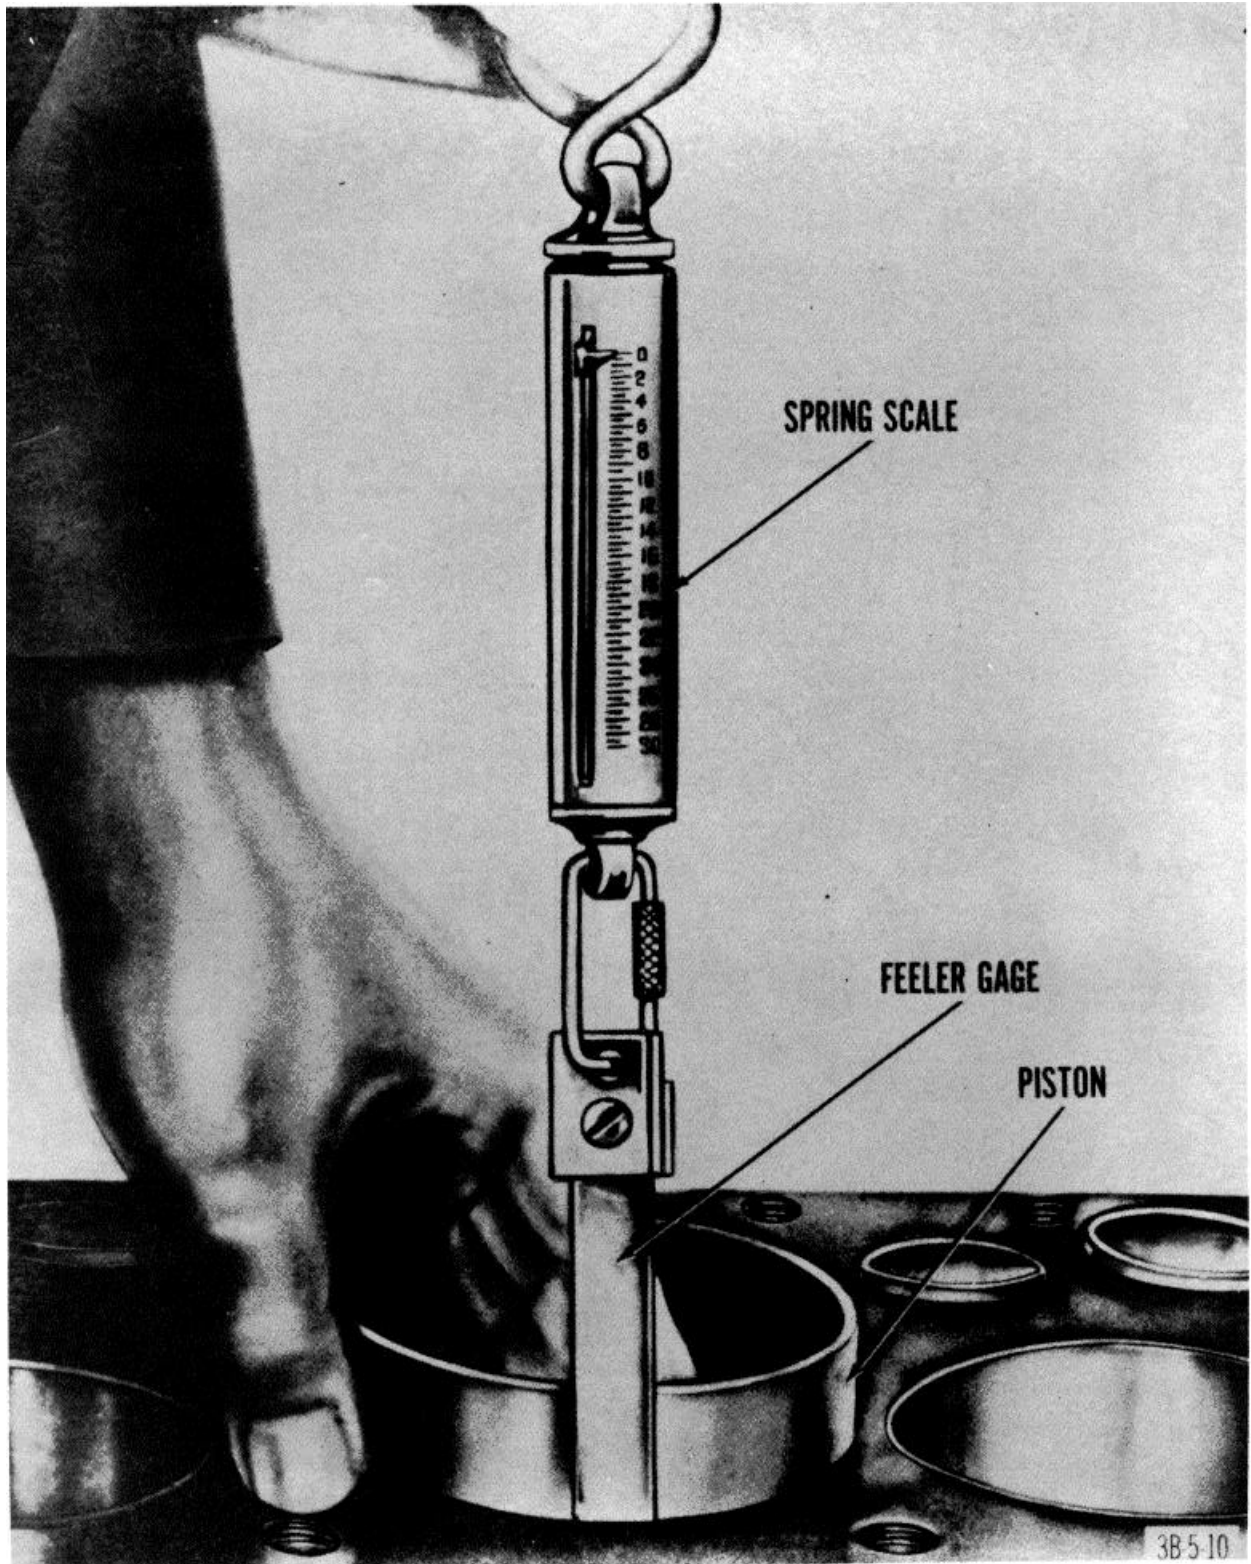
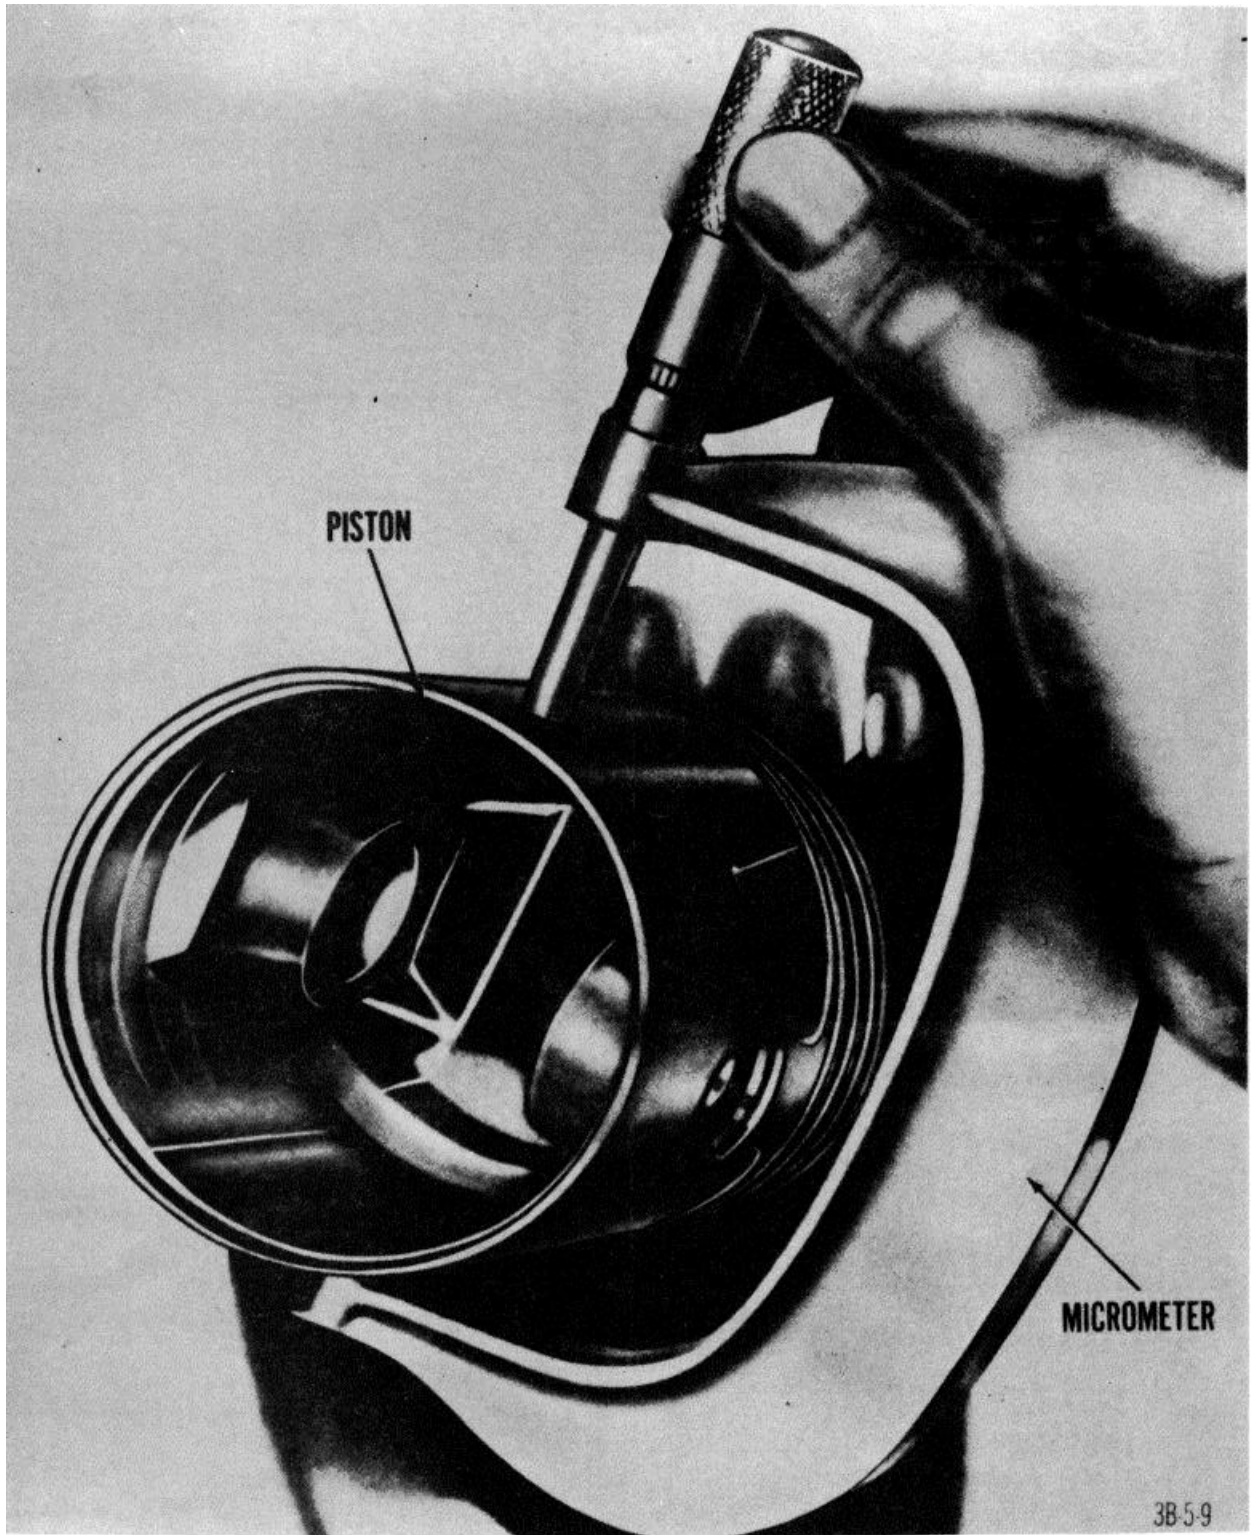

Figure 18. Fitting piston to cylinder bore.
Figure 19. Measuring piston.
- (1) Insert a 1/2 inch width feeler gage (0.003 inch thickness) full length in the cylinder bore.
- (2) Insert piston halfway down the bore and hook scale in end of feeler gage.
- (3) Pull on scale to lift feeler gage out slowly (fig. 18). If the fit is correct, scale should register pull of 5 to 10 pounds.
- (4) Test bore for roundness by inserting feeler gage in several places around cylinder walls Any variation in roundness will be noted by an increased or decreased weight on scale as feeler gage is pulled out
- (5) Measure cylinder bores carefully. If rings are good and engine is known to have definite power loss or excessive fuel consumption, and compression tests and careful examination eliminate valves as the source of trouble, reboring of cylinders for oversized pistons may be necessary (fifth echelon only). As a general rule, cylinders will be rebored if taper exceeds 0.007 inch. If taper is not excessive, the use of new rings may correct the trouble. When selecting new pistons, check diameter carefully with micrometer as shown in figure 19.